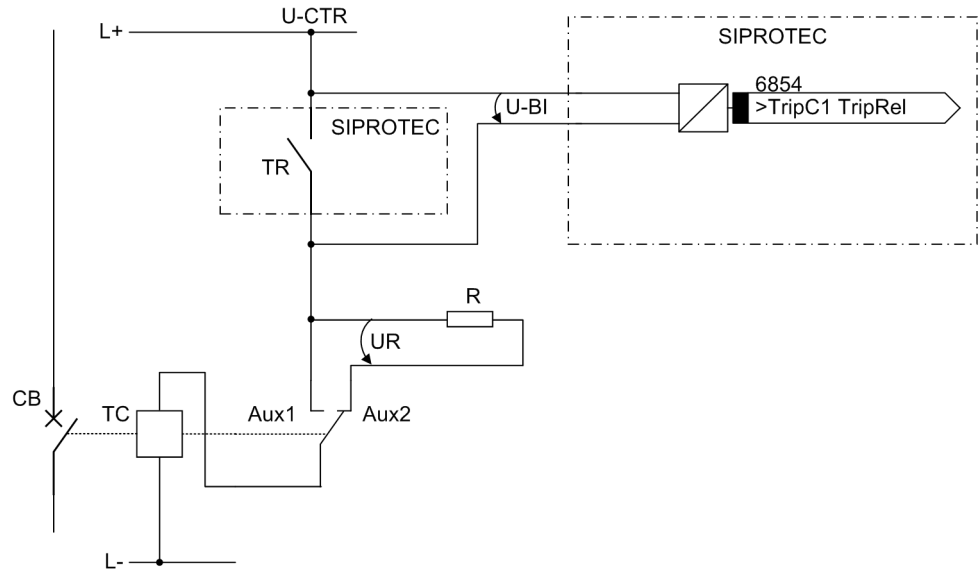

Figure 3-2 Trip circuit supervision with one binary input – example for trip circuit
If one binary input is used, a bypass resistor R must be used (refer to Figure 3-2). This resistor R is connected in series with the second circuit breaker auxiliary contact (Aux2), to also allow the detection of a trip circuit failure when the circuit breaker auxiliary contact 1 (Aux1) is open, and the command relay contact has reset. The value of this resistor must be such that in the circuit breaker open condition (therefore Aux1 is open and Aux2 is closed) the circuit breaker trip coil (TC) is no longer picked up and binary input (BI1) is still picked up if the command relay contact is open.